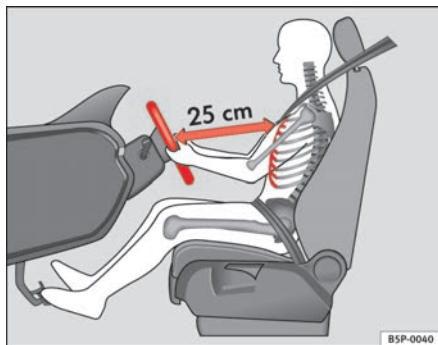

Fig. 1 The proper distance between driver and steering wheel
⇒ fig. 1.
- Adjust the driver's seat so that there is at least 25 cm distance between the centre of the chest and the centre of the steering wheel ⇒ **page 9, fig. 1**. If distance is below 25 cm, the airbag system may not protect you properly.